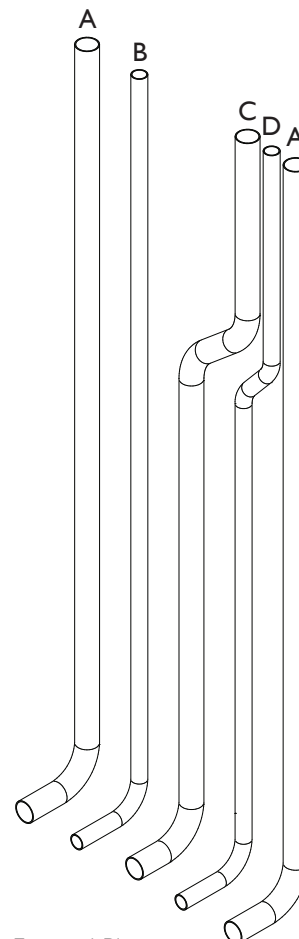

Fig. 4 Pre-Formed Pipes
- Identify the pre-formed pipes (Fig. 4)